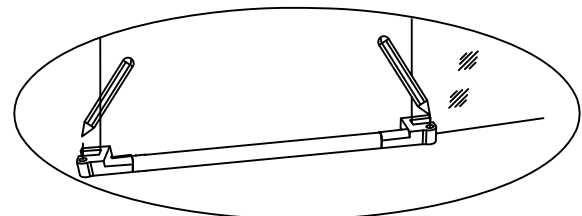

Fig.30
Position the Door Threshold bar (11) to shower tray by aligning in door opening with fixed glass. Mark the Threshold End Cap (12) mounting hole locations. See Fig.30 for details.